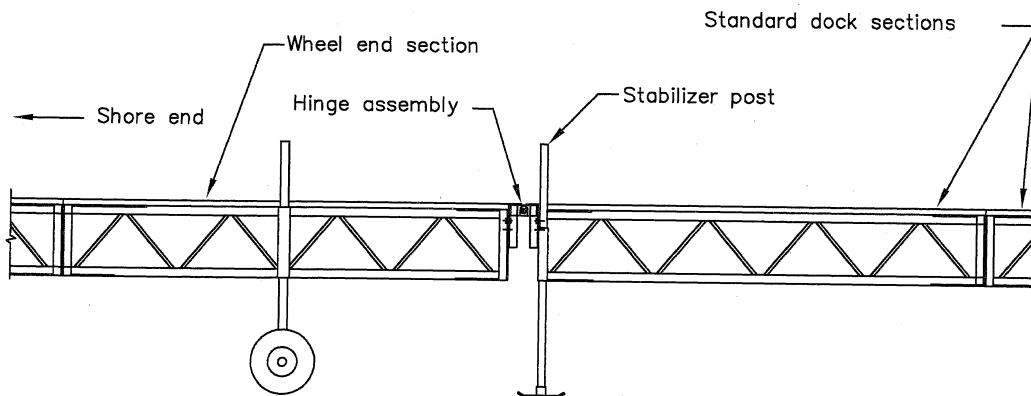

FIG. 34: Dock Components
- Raise all stabilizer posts to the highest position. See FIG. 34.
- Lower all wheel upright poles to the lowest position. See FIG. 34.